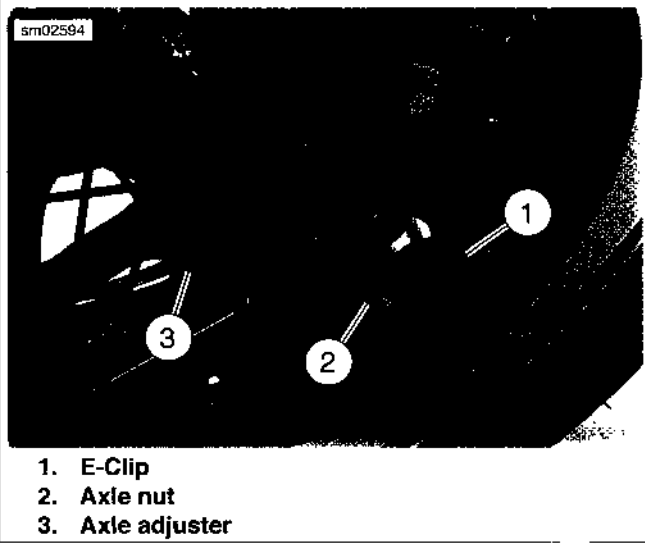

Figure 1-26. Axle Adjusters: All But FXCWC
1. **All but FXCWC:** See Figure 1-26. Remove e-clip (1). Loosen rear axle nut (2).